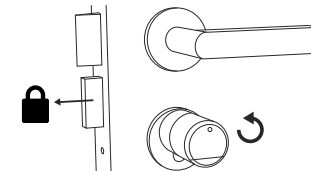

Fig. 3
- ② The cylinder is now released and the lock can be opened (Fig. 2) or locked (Fig. 3).